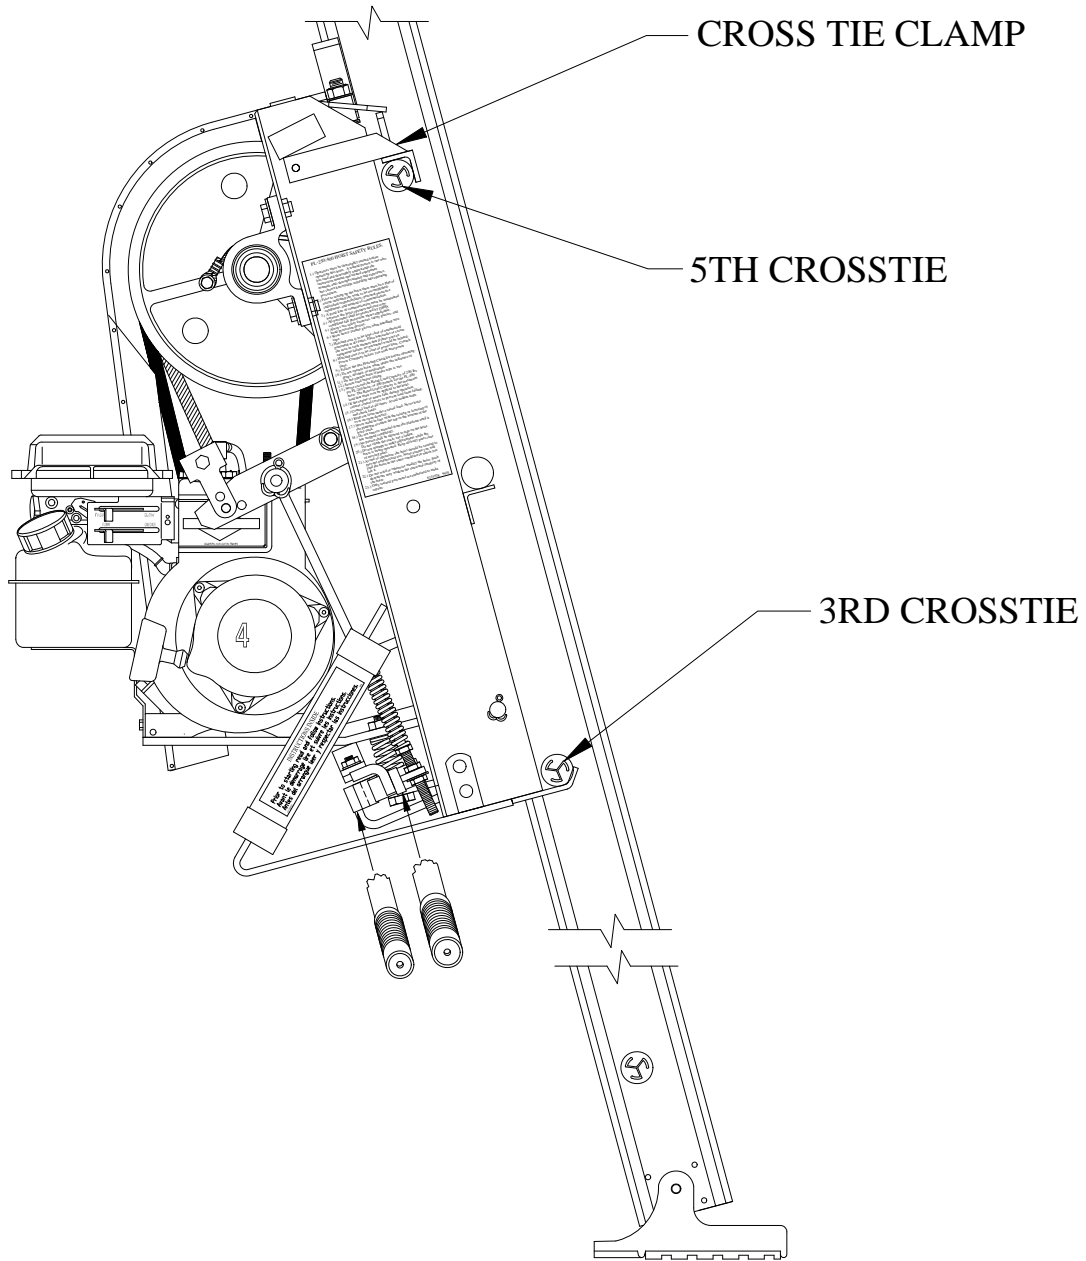

Figure 3-1.
3. Referring to Figure 3-1, and the instructions included with the additional cross tie stiffener install a cross tie stiffener in the 5th cross tie from the swivel shoe end of the base track section.
4. Mount the power drive in an essentially vertical position. **If the power drive is not vertical, the brake and clutch levers will not work and the engine may not operate.** Referring to Figure 3-1, position the power drive on the 3rd and 5th reinforced track cross ties from the bottom with the clamp on the 5th cross tie. Power drive should be on the underside of the track. Center the drive between the track rails and lock in place by rotating the lock to the left. Insert a #38 lock pin in the hole provided to prevent lock from loosening. Fasten the operating handles on the power drive. When facing the power drive from the rear or building side of the track, the power drive operator handles will be on your right. Details on power drive startup are given in Chapter 4.